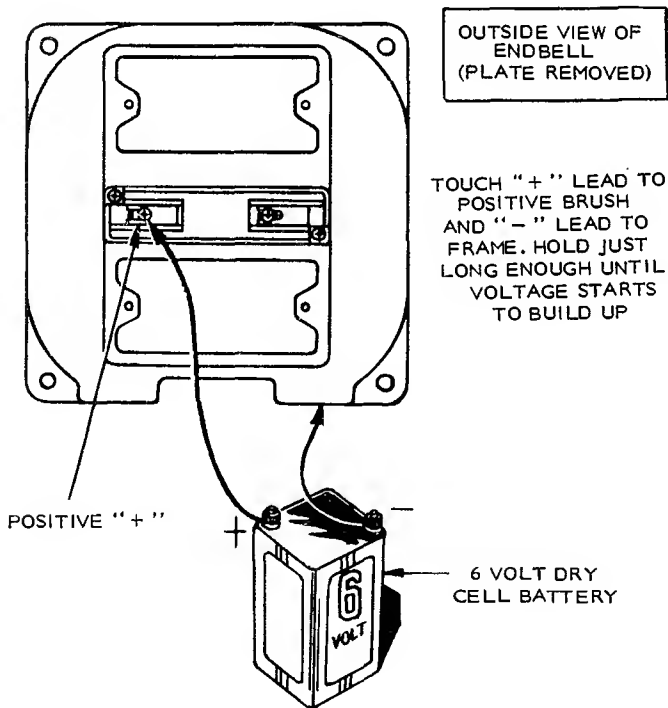

FIGURE 6. FLASHING THE FIELD
2. Connect a 6 volt lantern battery with leads as shown in Figure 6.